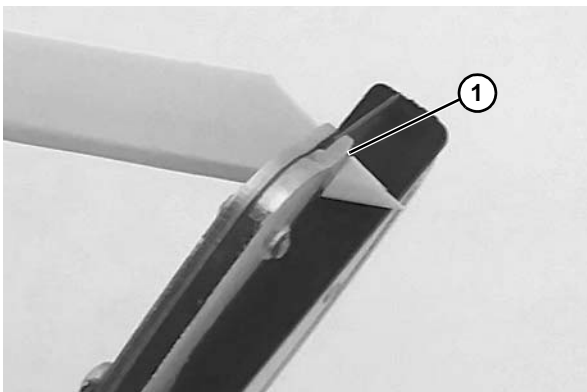

Figure 33
1. Cut both slide rail ends at a 35° angle. The beginning of a new slide rail (in the direction of travel) must cut back at a small angle (**Figure 33, item 1**).